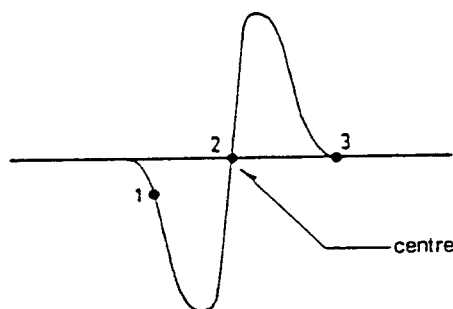

Fig. 12. AFC Response Curve.
2. Adjust T103 for the marker (38.9MHz) of AFC wave form at position. (See Fig.12) the centre.